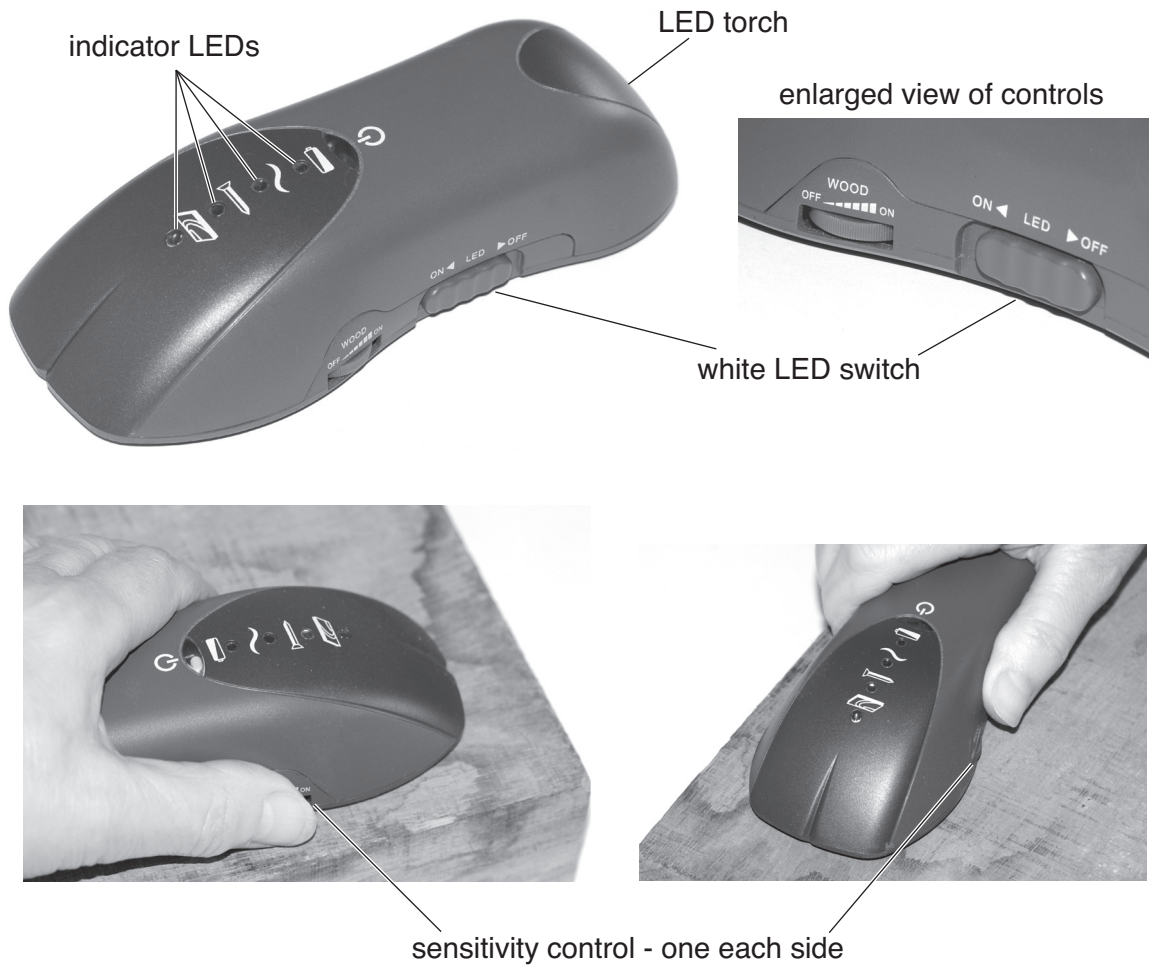

Fig. 4
- 2 Fig. 4 shows a hand held detector used for finding concealed mains cable, other metals and timber framing.
- (ii) State why the symbols next to the indicator LEDs and controls in Fig. 4 must have been applied after the moulding had taken place.